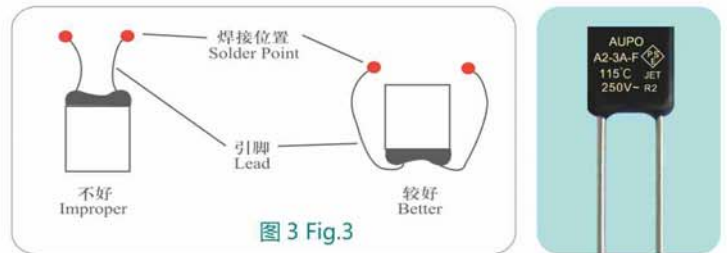

图 3 Fig.3
- 尽可能利用长一些的引脚, 长一些的引脚允许较长的焊接时间及减少过热的可能性。(见图 3) 为如何在较小的位置保留长一些的引脚的例子。在引脚较短的情况下, 在焊接时要用尖嘴钳或其它工具夹在引脚上焊点和保险丝体之间位置上以散热, 避免焊接热传入量温度保险丝内部。同时焊接温度应控制不要过高, 焊接时间尽可能短。
- Using the lead wires as long as possible when soldering, longer leads permit a longer soldering time and reduce the possibility of overheating. Fig.3 is an example of how to keep a longer lead wires when a thermal cutoff is installed in a small space. It is recommend that using a heat sink between the soldering point and sealant to minimized the heat transmission to thermal cutoff. Avoid the soldering temperature is too high and keep the soldering time as short as possible.